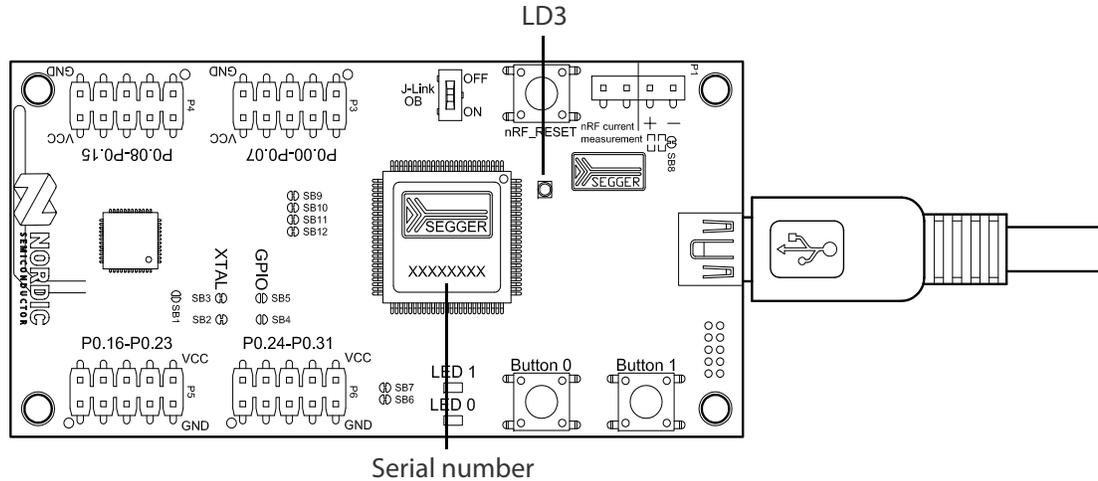

Figure 34 J-Link Lite CortexM-9 serial number location
2. Download and run the J-Link Software and documentation pack for Windows from <http://www.segger.com/jlink-software.html>. The serial number from your SEGGER J-Link hardware is needed, see *Figure 34* on page 46.